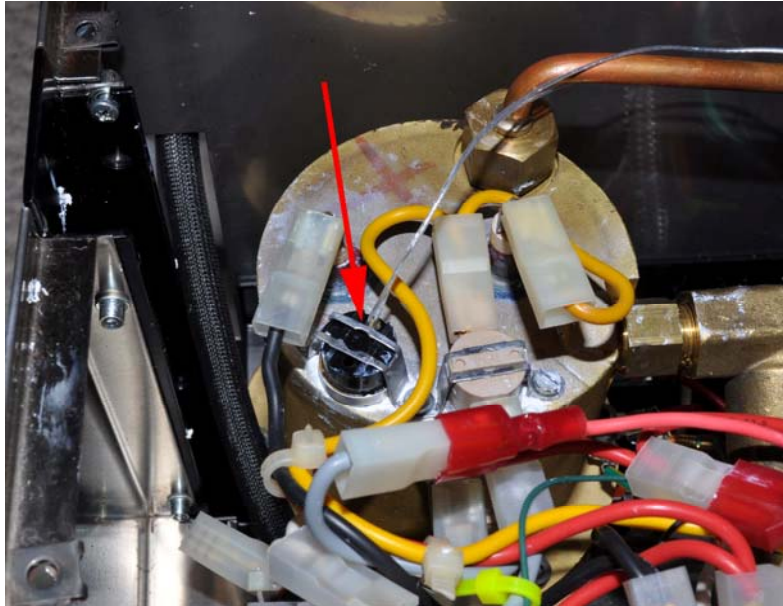

Figure 12b. RTD sensor mounting.
- 2) Install the RTD sensor. The RTD sensor should sit in the same place as the original brew thermostat was located (indicated by the green arrow in Fig 11). Remove the brew thermostat by loose the screws that hold it. Insert the RTD sensor to the same bracket that was used to hold the brew thermostat. Sometimes, it is convenient to work on the screws by temporarily removing the cable connector on the left side terminal of the heater. Please note that if the machine is old and as a result, the plastic protection guard of the heater connector is brittle, it might break off and leave some unprotected spots. You need to use a small to medium sized flat head screw driver to remove the screw. Be very careful to not let it drop into the gap below. If it drops to the top of the grouphead, it could be a lot of trouble to take it out. A magnetized screw driver will help. Apply a small amount of silicone heat transfer compound to the bottom of the RTD sensor before installation. This will ensure a fast and accurate temperature measurement. Fig 12b shows the RTD has been installed (marked with red arrow).